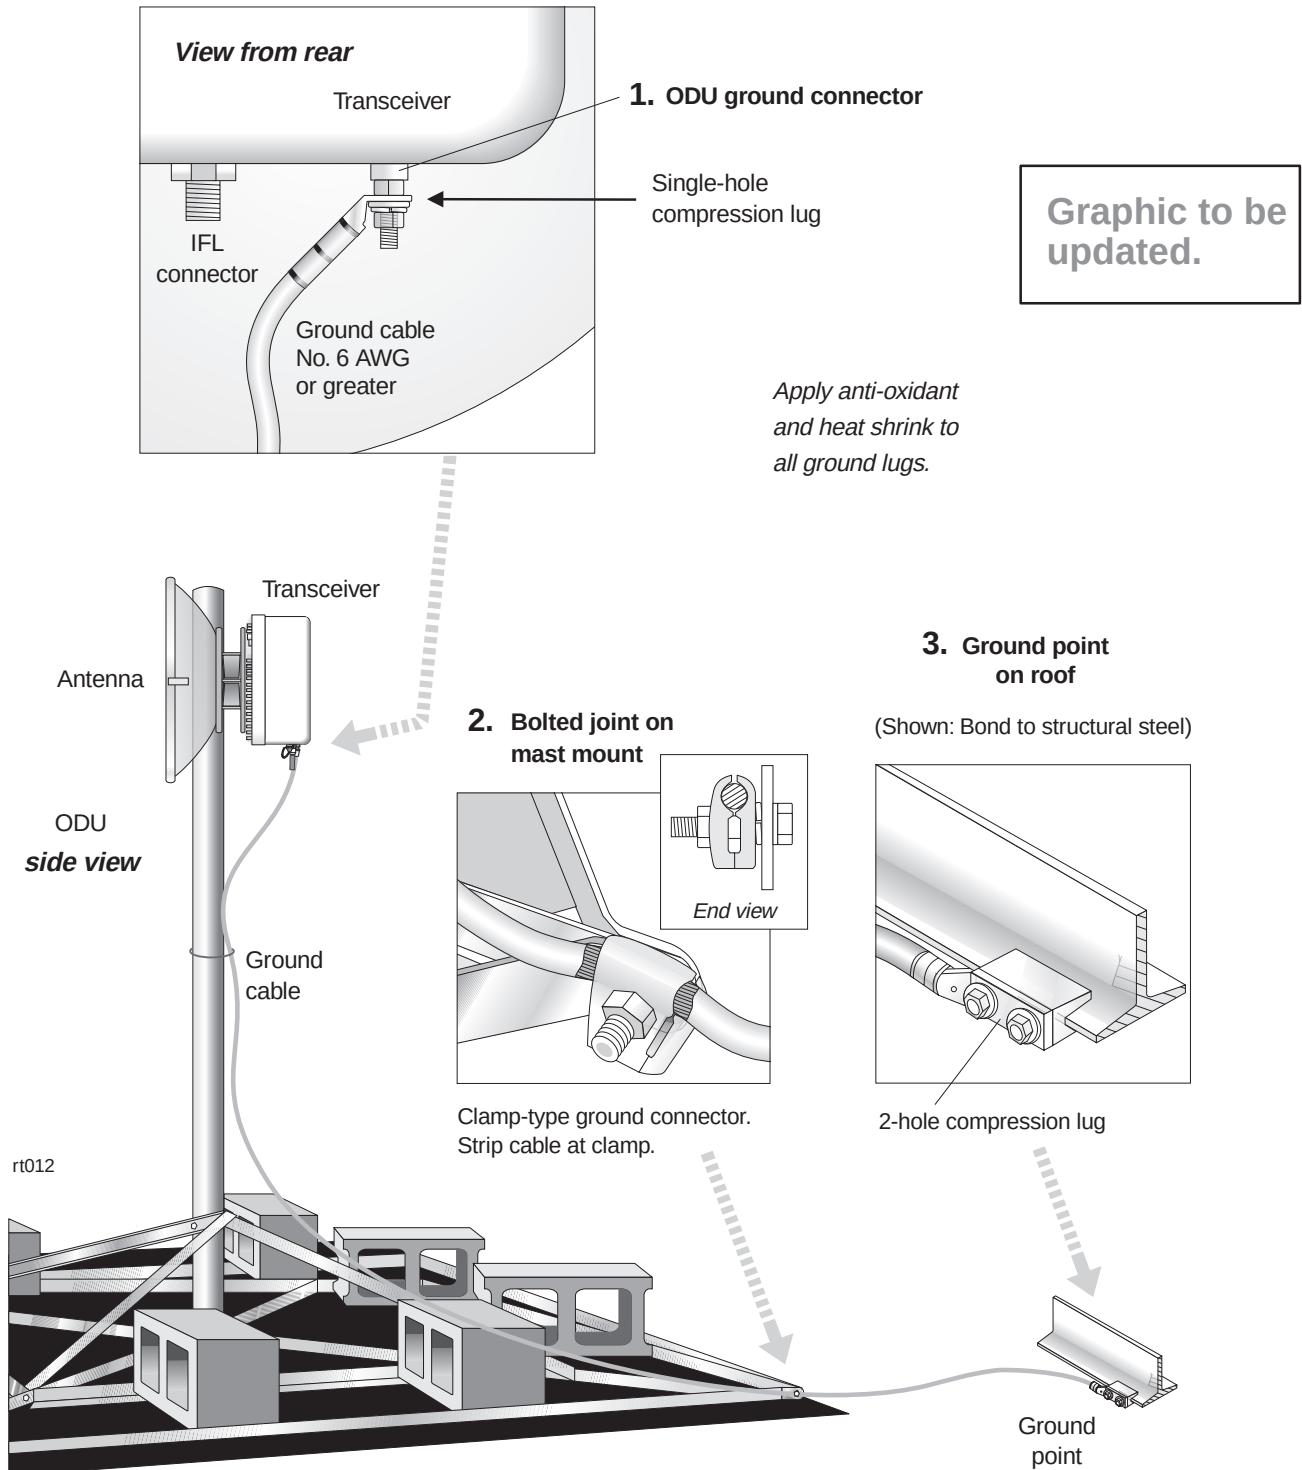

Figure 6-21 ODU grounding connections
Grounding the ODU requires several connections, as shown in figure 6-21. In making the ground connections, *follow these practices*:
1. Connect one end of the ground cable (No. 6 AWG or greater, green) to the ODU ground connector, which is shown in figure 6-21.
Important: For this connection, strip the cable but **do not cut it**. See figure 6-21. The cable continues from the bolted joint to the ground point.
4. Apply anti-oxidant (HNS 9008224-0002) to each ground lug (points 1, 2, and 3 in figure 6-21).